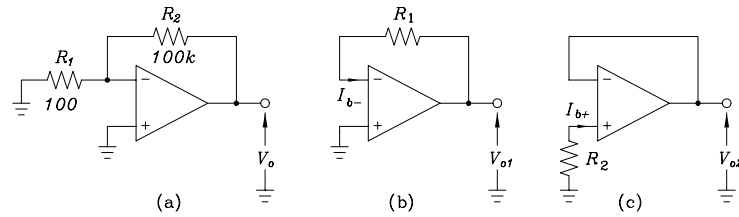

Figure 4: (a) Circuit for measuring input offset voltage, (b) and (c) circuits for measuring input bias currents
Ideally the output voltage is given by $V_o = A(V_+ - V_-)$ but in practice it is found that V_o is nonzero even when $V_+ = V_-$. A better approximation to the transfer function (at very low frequencies) is $V_o = A(V_+ - V_- + V_{io})$ where V_{io} is called the **input offset voltage**. Typically it is less than 5 mV and can be measured by the circuit of Fig.4(a).
- (13) Set up the circuit of Fig. 4(a) and measure V_{io} and its polarity. Compare with the manufacturer's specifications.
The ideal situation of zero input currents is also not realisable in practice. Small bias currents do flow into the inputs, and these can be measured by the circuits of Fig.4(b) and (c).